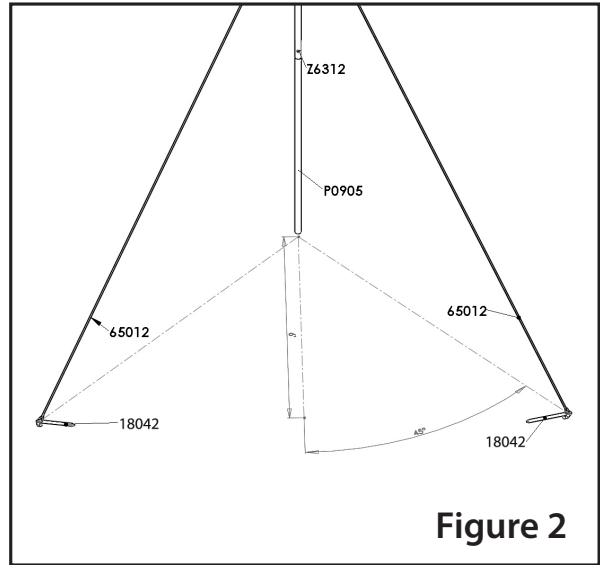

Figure 2
7. Insert two bottom uprights (P0905) into two top uprights and snap into place using the buttons (Z6312) already installed in the tubes (**Fig. 2**). The bend at the top of tubes (P0900) should face inward.